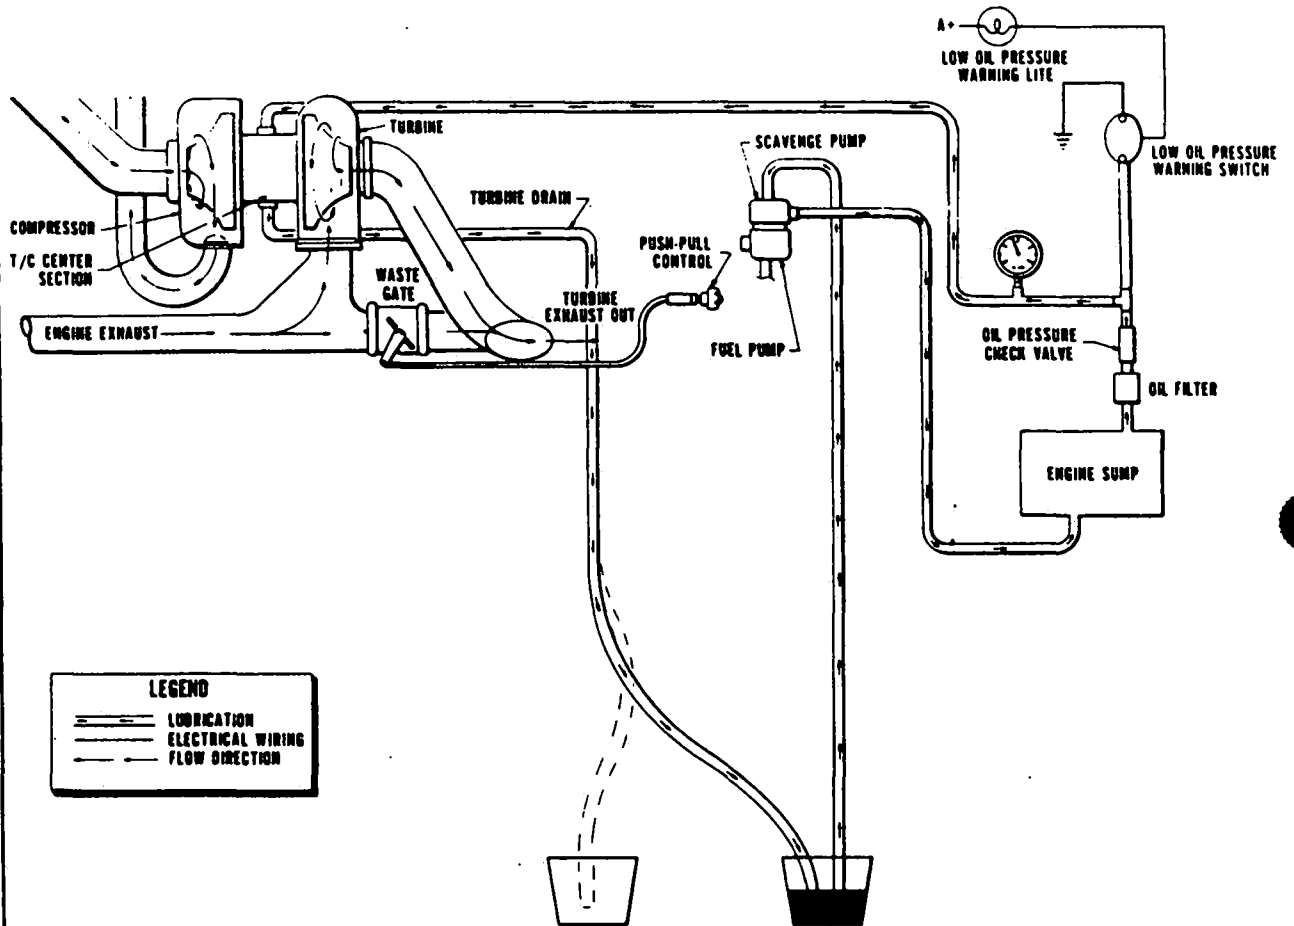

Figure 8A-29. Turbo Oil Flow Check
**8A-62. TURBO OIL FLOW CHECK.** (Refer to Figure 8A-29.) Should an indication of low turbo oil pressure or flow occur, the following system checks may be accomplished.